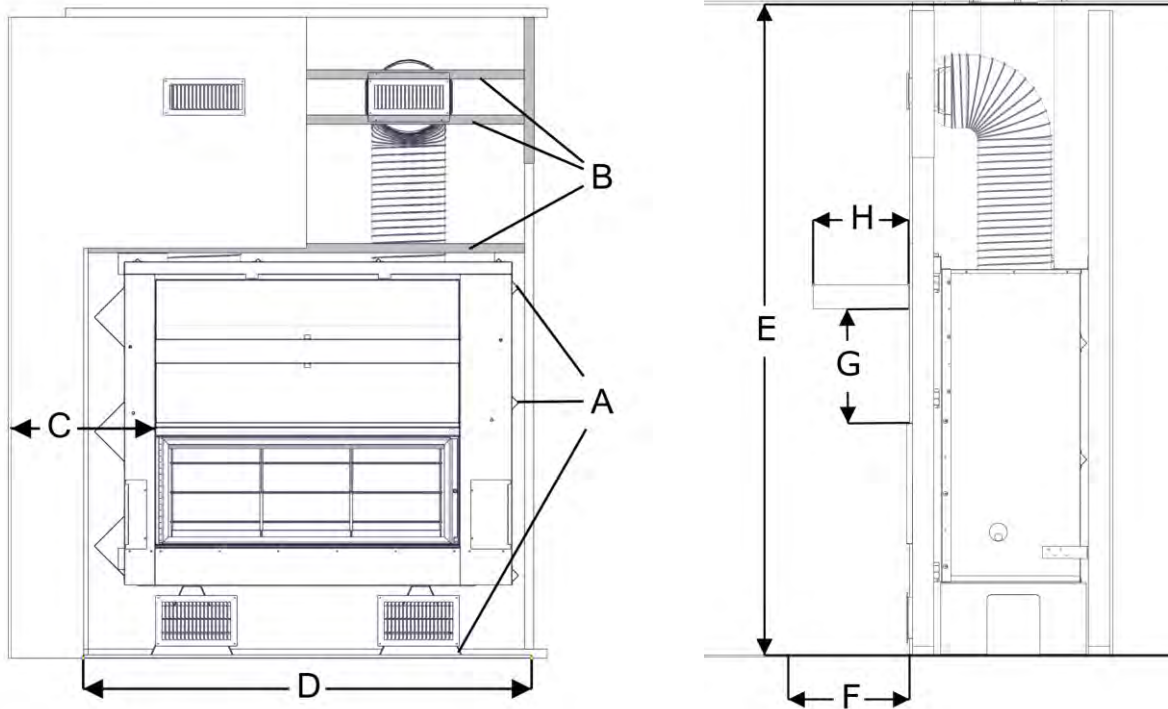
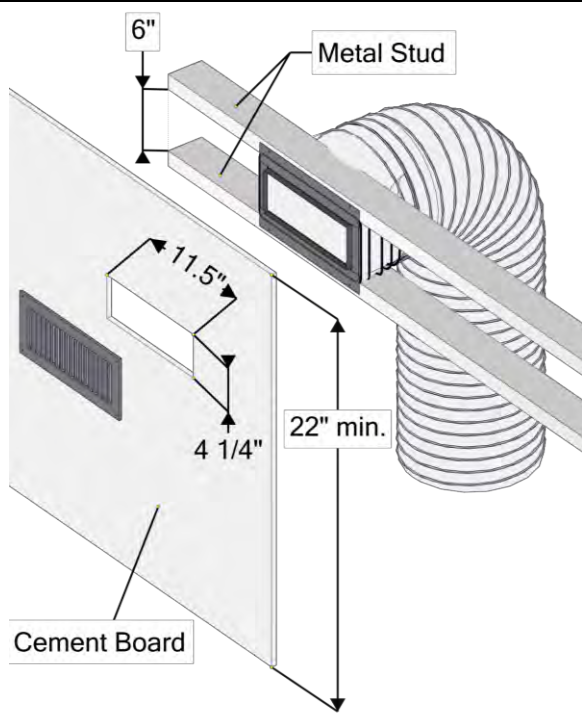
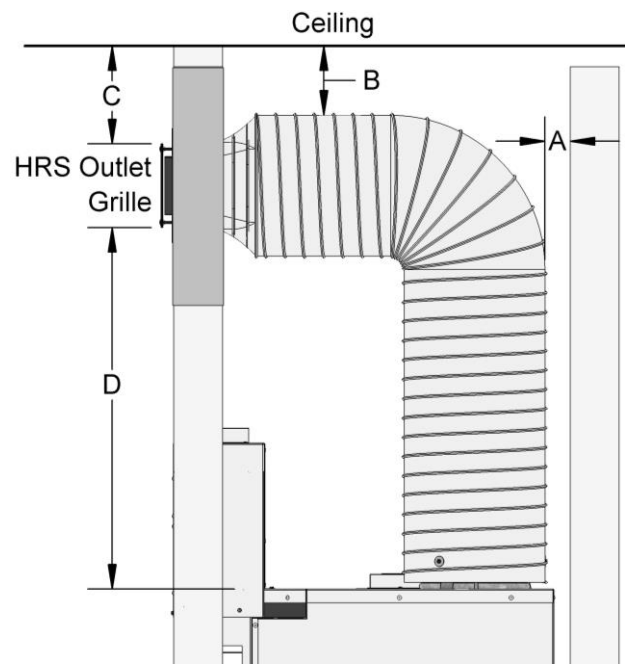

FIGURE 13 FIREPLACE CLEARANCES (SEE TABLE 2)
FIGURE 17 HRS HOT AIR OUTLET ROUGH OPENING
FIGURE 18 HRS OUTLET CLEARANCES (SEE TABLE 3)
COMBUSTIBLE FRAMING IS NOT PERMITTED IN THE SPACE DIRECTLY ABOVE THE FIREPLACE. THE ONLY EXCEPTION IS FOR FRAMING USED TO SUPPORT THE FACING MATERIAL AND MANTEL BUT SOME RESTRICTIONS APPLY, SEE FIGURE 13, FIGURE 17, TABLE 2 AND TABLE 3 .
Framing for the grilles and wall finish material around the Hot Air Outlet Grilles must be non-combustible (e.g. metal studs and cement board). Refer to Figure 17.
3. Using metal studs, frame the location you wish to mount the hot air outlets (see Figure 17). Make sure to respect all required clearances, see Figure 18 and Table 3.